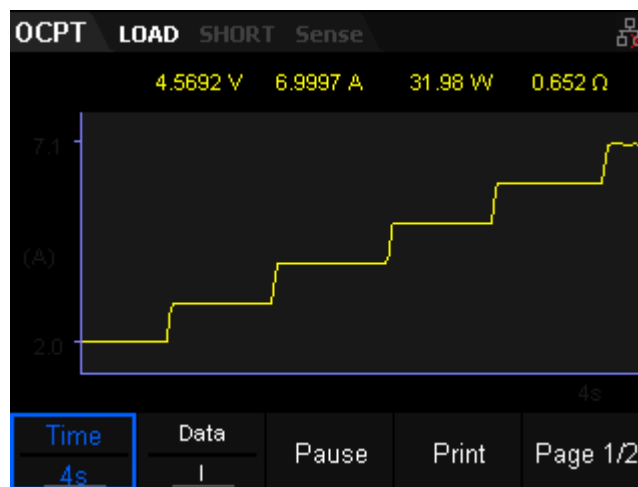

Figure 2-31 Waveform display interface of OCPT
Press the **Display** key to enter the waveform display interface, as shown in figure 2-31. The sink current should have a stepped increase in the waveform when viewing current (I) data. . Press the **Display** key again to exit the waveform display interface and return to the main interface of OCPT test mode.